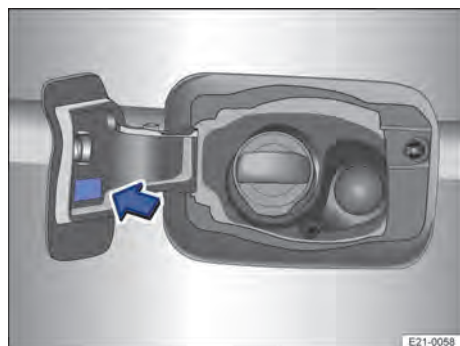

Fig. 168 On the inside of the tank flap: fuel information label (illustration).
The type of fuel to be used depends on the vehicle engine. There is a factory-fitted fuel information sticker on the inside of the tank flap that indicates the fuel that must be used for the vehicle → Fig. 168.
- On the vehicle on the fuel information label in the tank flap → Fig. 168.